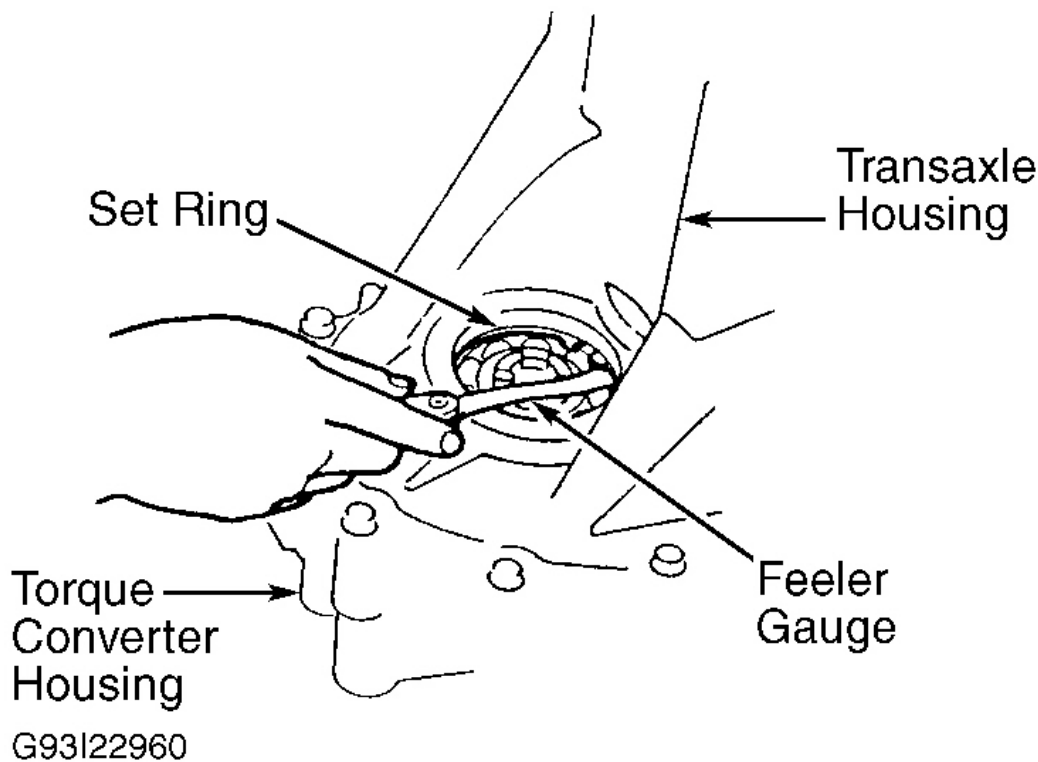

Fig. 29: Checking Differential Bearing Side Clearance
4. Using feeler gauge, measure differential bearing side clearance between snap ring and bearing on the transaxle housing. See **Fig. 29**. Replace snap ring if differential bearing side clearance exceeds .006" (.15